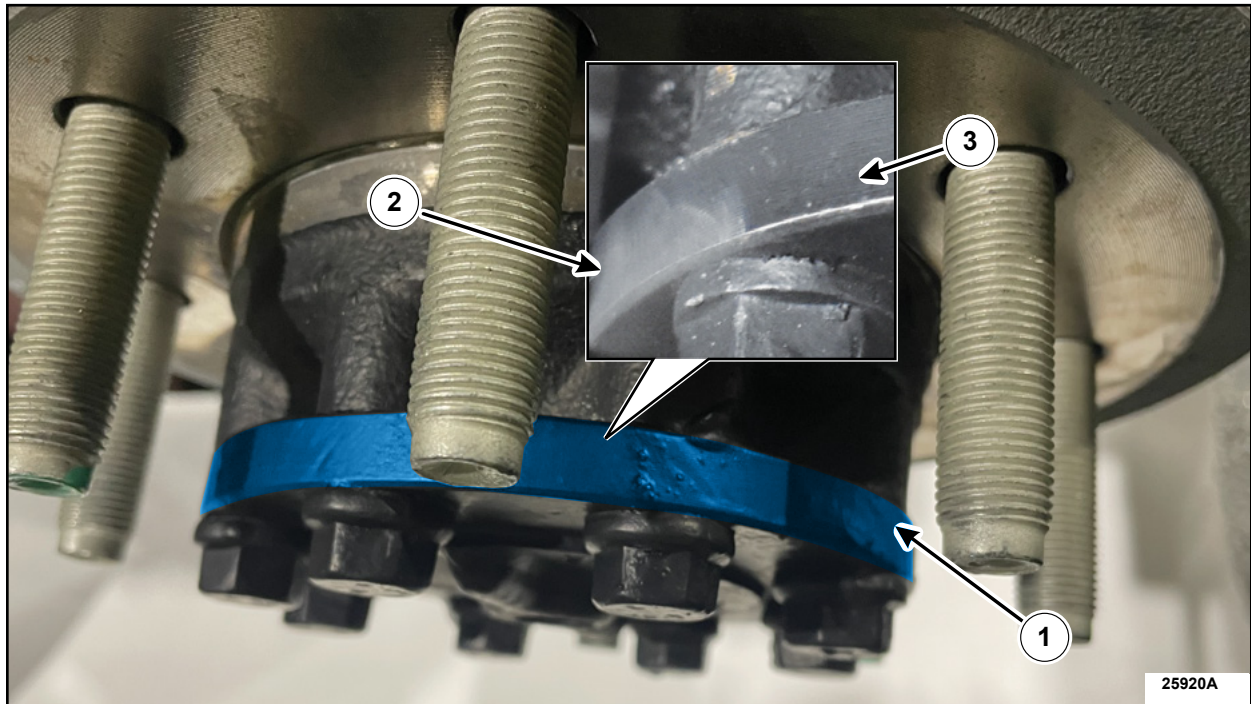

FIGURE 1
2. Using a right angle grinder with a wire wheel, apply light pressure and remove the black coating on the RH rear axle flange to expose the bare metal. See Figure 1.